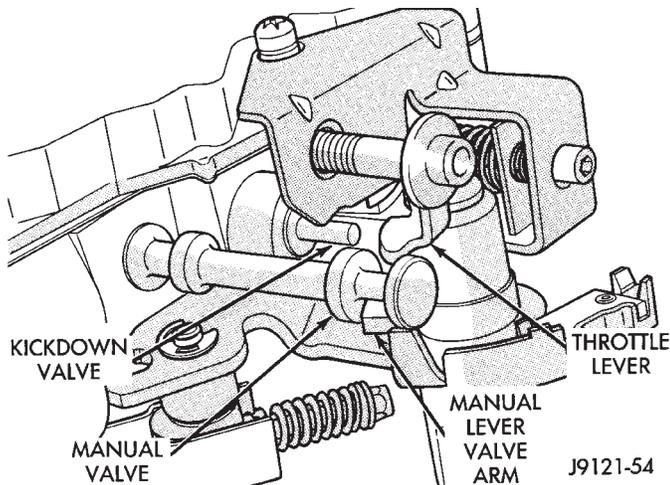

Fig. 111 Manual And Throttle Lever Alignment
(7) Verify that throttle lever is aligned with end of kickdown valve stem and that manual lever arm is engaged in manual valve (Fig. 111).
(8) Position line pressure adjusting screw in adjusting screw bracket.
(9) Install spring on end of line pressure regulator valve.
(10) Install switch valve spring on tang at end of adjusting screw bracket.
(11) Install manual valve.
(12) Install throttle valve and spring.
(13) Install kickdown valve and detent.
(14) Install pressure regulator valve.
(15) Install switch valve.
(16) Position adjusting screw bracket on valve body. Align valve springs and press bracket into place. Install short, upper bracket screws first and